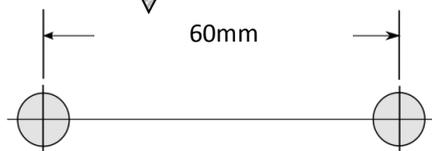
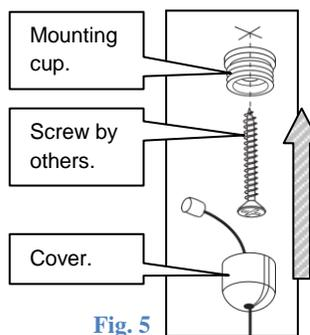

Fig. 2
Fig. 5
2. Fix the wire suspension mounting cups to the ceiling on centres as indicated. (fig.2 Further detail fig.5)
5. Attach wire suspension cables using the retaining covers. (fig.5)